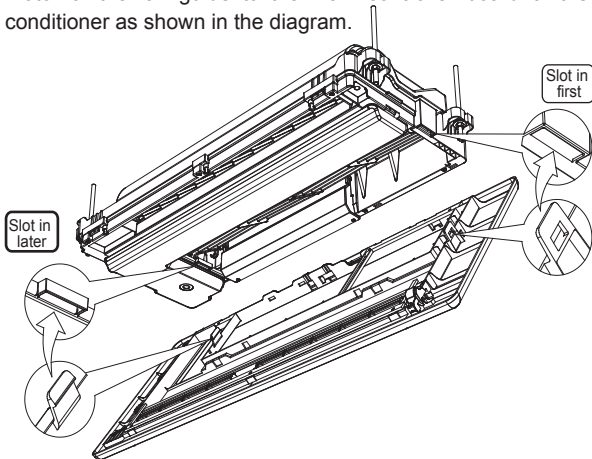

Figure 4.16
- 1) There are two buckle structures on the panel assembly for the installation of the auxiliary panel, and the assembly method of these buckles is as shown in Figure 4.16.